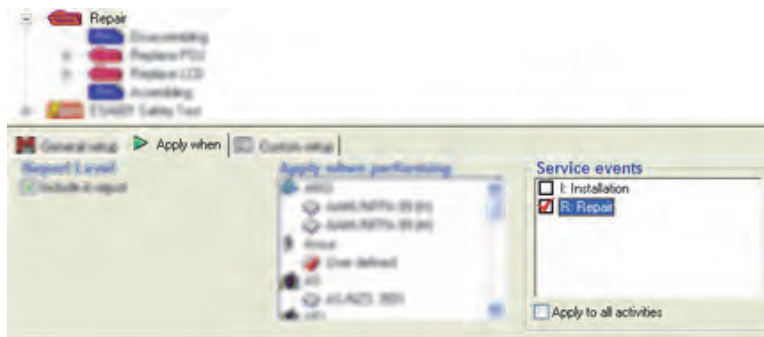

Figure 3-67. Assigning Service Events to Repair
- Click the test element named **Repair** in the template window shown in Figure 3-67.